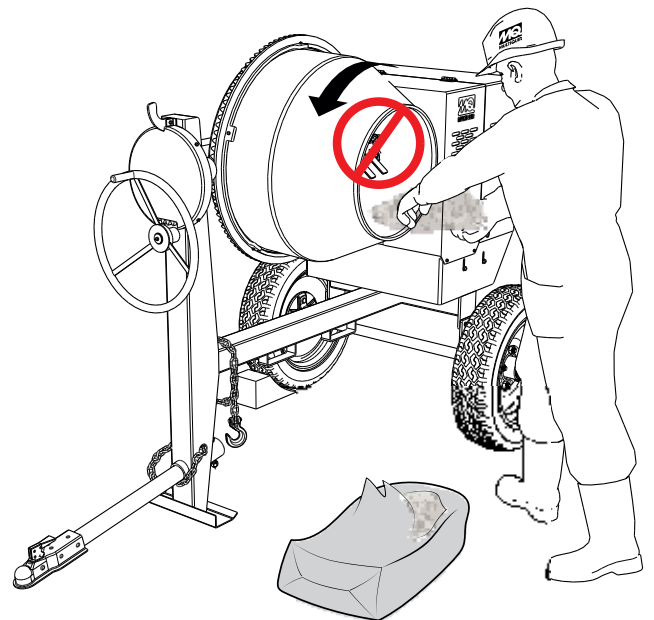

Figure 23. Filling Mixing Drum (WRONG)
3. Placing the shovel all the way inside the drum (Figure 23) will cause the shovel to strike the blades. This condition will make the shovel rotate, and could cause injury to personnel. **NEVER** place hands inside the mixing drum while it is rotating.